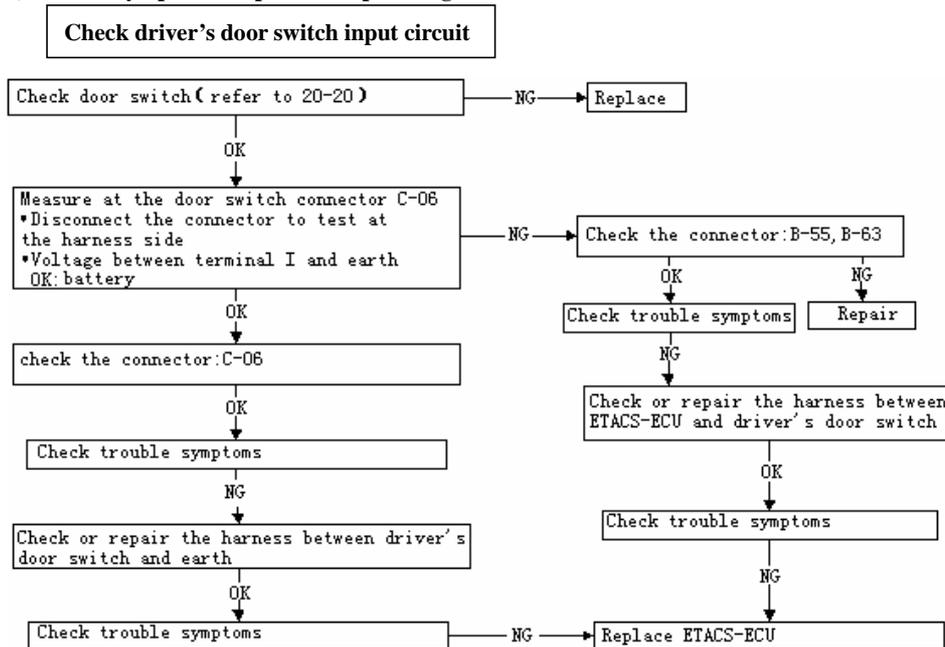

Fig 20-32
6) Trouble symptoms inspection step 4 as fig 20-32